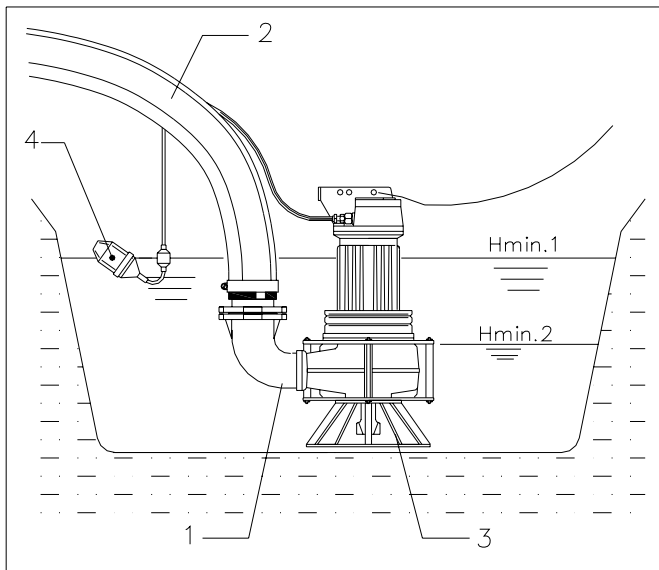

Fig. 6.8
- Check that the motor is adequately cooled. The motorhousing should be at least 2/3 submerged for continuous operation at full load (see Hmin.1 Fig. 6.8). It is good practice, whenever possible to keep the motorhousing completely under water.
We recommend not to run the pump with the water level below the top of the volute in order to avoid air being drawn in (see Hmin.2 Fig. 6.8).